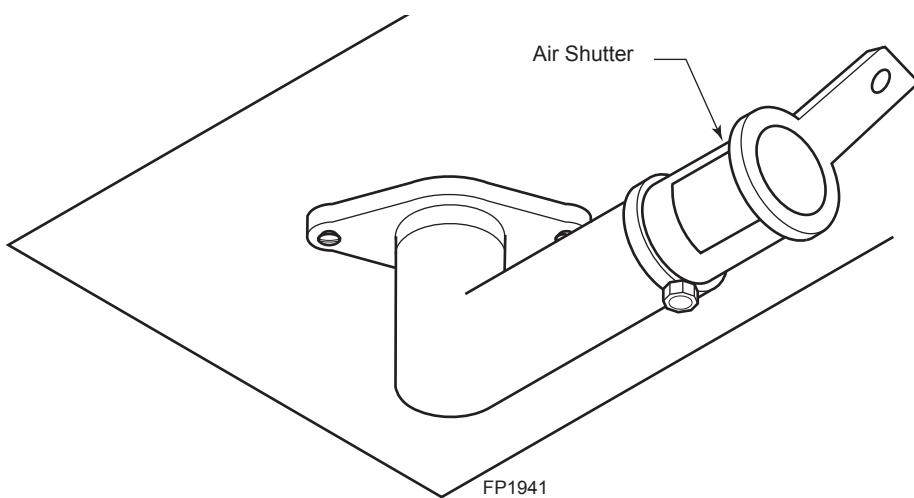

Figure 33 -
- To decrease air mixture, close the shutter. Flames will be more yellow. *Figure 33*